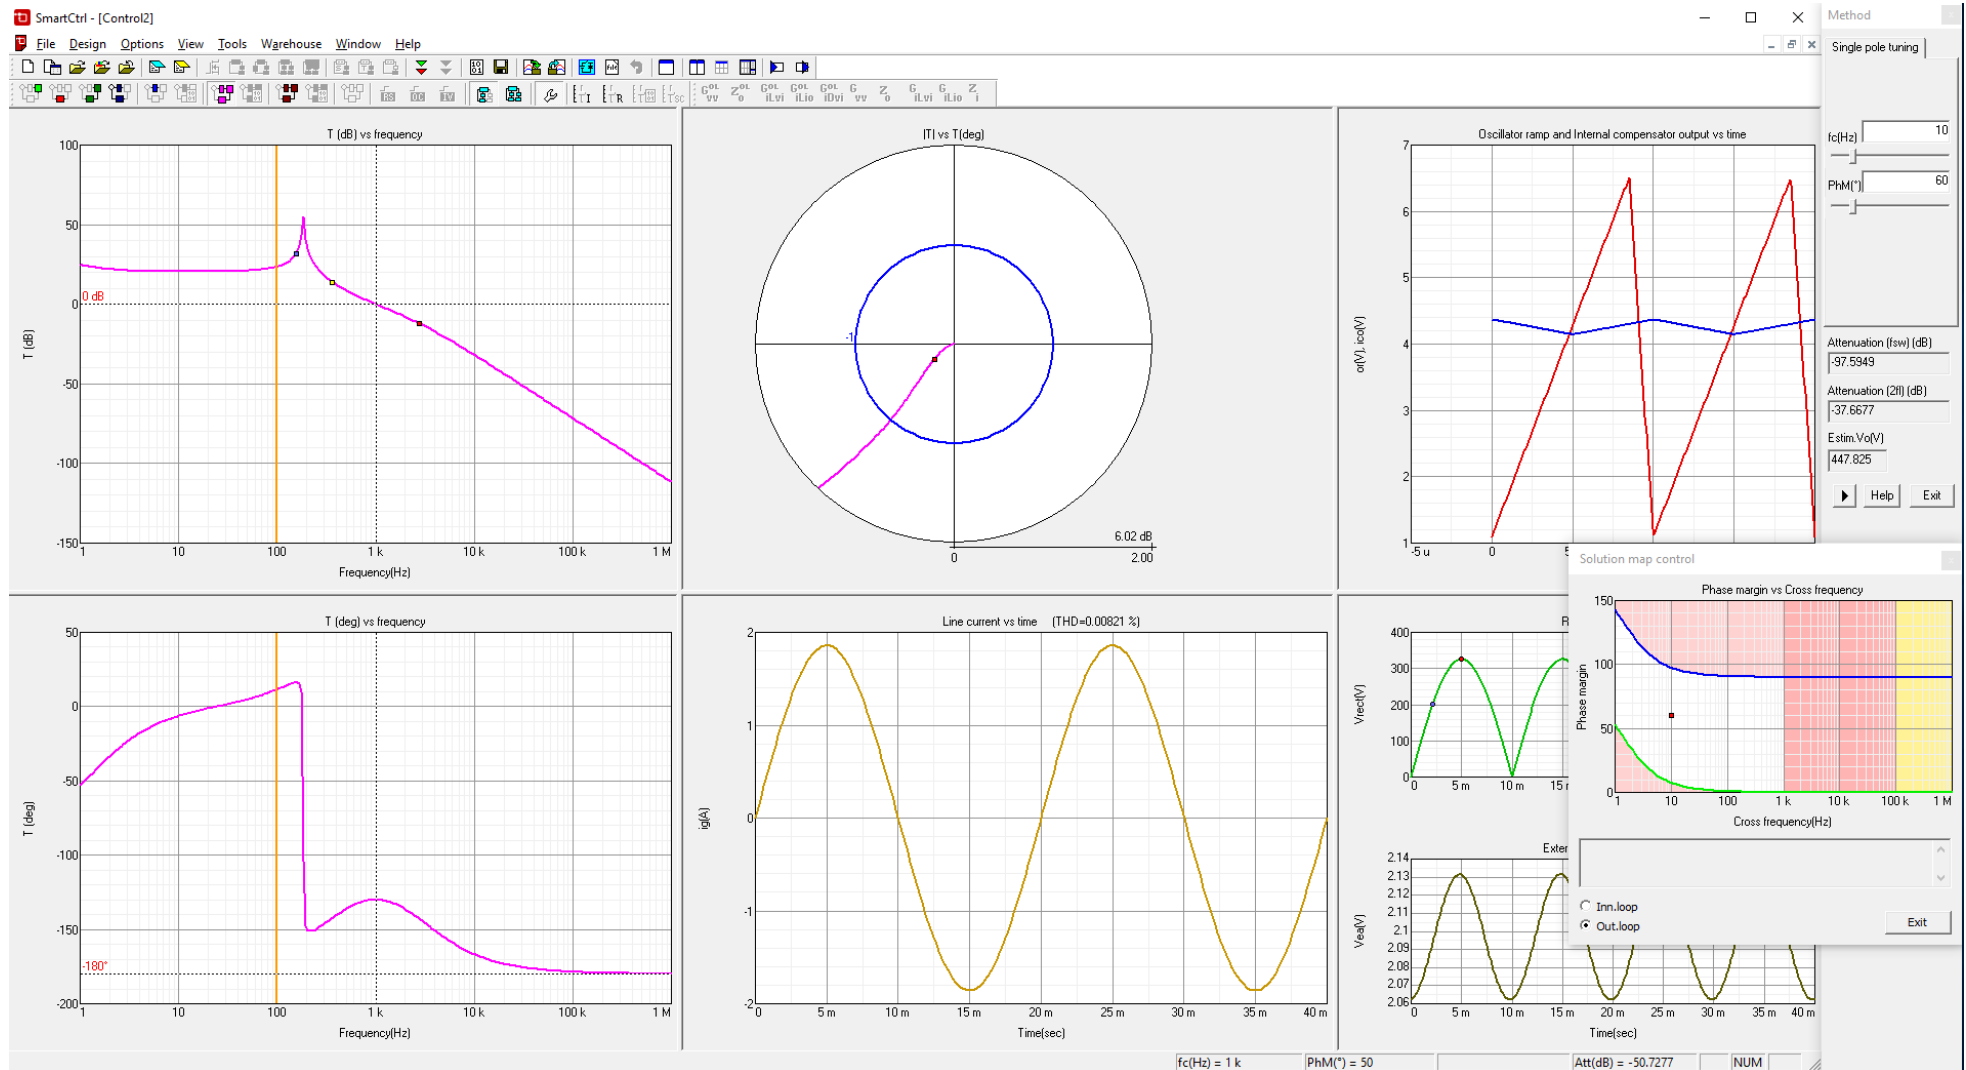
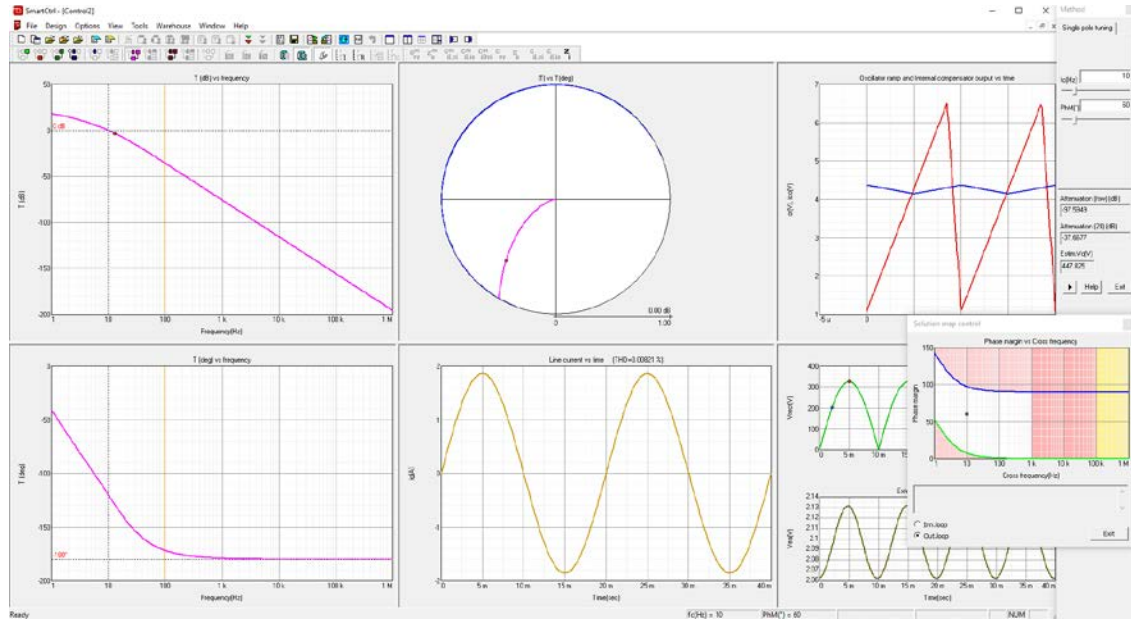

Figure 21: SmartCtrl main window for inner loop
Figure 24: SmartCtrl main window for outer loop
When the data input wizard finish, some panels appears so the user can check the dynamic response of the control already designed and adjust it. This window configuration can be seen in Figure 21.
- Check the steady state waveforms – they are shown in the right part. They are quite useful to identify possible oscillations, noises or waveform distortions. For example, if PI compensator would have been chosen for the outer loop, a current distortion will appear in these traces. See Figure 21.
- Check the response to a small signal step – It gives information about the response of the system, if it is underdamped or overdamped. See Figure 21.
- Check the bandwidth with the bode plots – The crossover frequency in open loop is pretty close with the closed loop bandwidth. See Figure 21.
- Check the stability with the Nyquist plot – it provides quick-understanding info about the stability of the system. See Figure 21.
The Bode plots and Nyquist plot corresponding to the inner loop are shown in Figure 21, as well as the graphical information regarding the outer loop is shown in Figure 24. In the right panel "Method", three parameters appear: